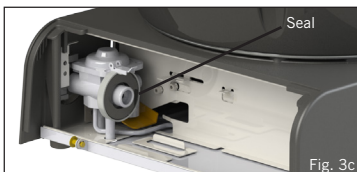

Fig. 3c
- If bubbles form, then there is a gas leak. Immediately remove the gas cartridge from the appliance. Check that all the connections are properly fitted. Check that the seal is in place and in good condition before connecting a gas cartridge (Fig. 3c). Re-check with soapy water after refitting the cartridge.
- Check that the seal is in place and is not worn or damaged before connecting the cartridge (see Fig. 3c).